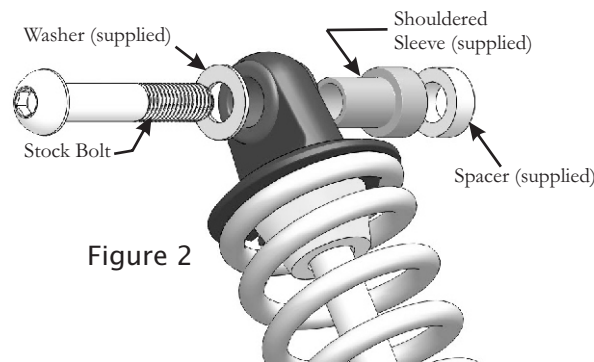
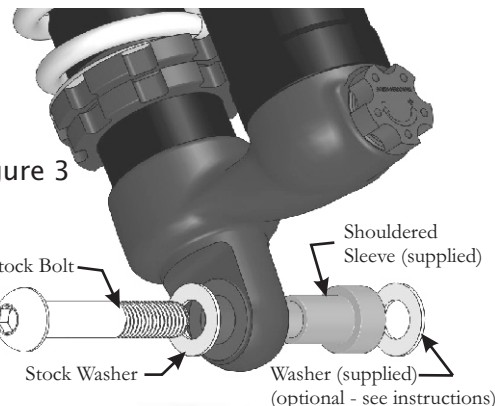

Figure 2
Figure 3
3. Though the 970 Series shocks will work with the reservoirs in any position, on every V-Rod model the reservoirs must be at the bottom facing rearward (as in Figure 1) to avoid contact with the rear fender. It is crucial that the proper sleeves, spacers, and mounting hardware be used at each of the four mounting points - and don't forget to apply a thread-locking agent on each of the shock bolts. On the top mounts, both left & right, the stock bolt first goes through one of the supplied flat-washers, then the shouldered-sleeve installed in the shock eye (with the shoulder towards the frame), then one of the supplied spacers, and finally into the frame (see Figure 2). On the bottom mounts, both left & right, the stock bolt first goes through the stock flat-washer, then the shouldered-sleeve installed in the shock eye (with the shoulder towards the swingarm), and finally into the swingarm - NOTE if the bolt protrudes out the back of the threads (beltguard/nut), install one of the supplied flat-washers between the shouldered sleeve and the swingarm (see Figure 3). Tighten all shock bolts per the torque specification in your factory authorized service manual.